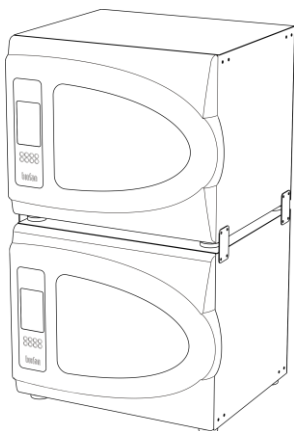

Figure 2. Stacking two units
5.4. **Stacking two units** (figure 2).